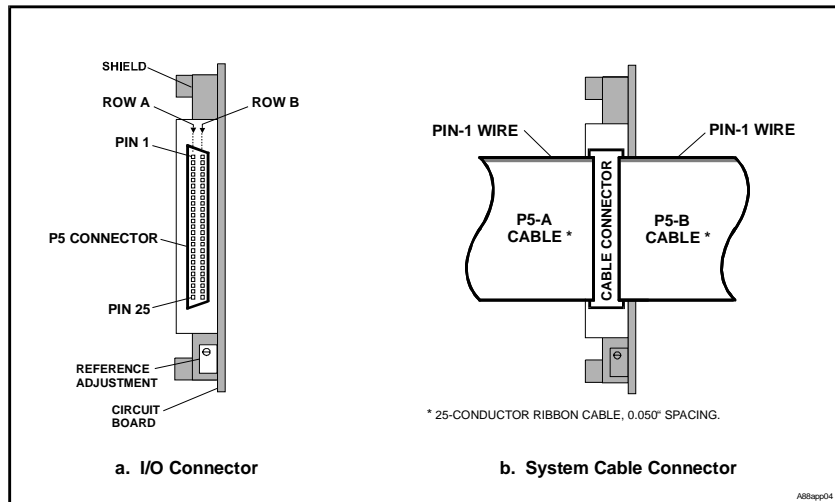

Figure 2-1. Input/Output Connector and Cables
I/O connector P5 is designed to mate with a standard male 50-pin 0.05" subminiature D connector, equivalent to AMP #1-750913-5. The insulation displacement (IDC) AMP cable connector accepts two 25-conductor ribbon cables in the configuration shown in Figure 2-1. Alternative discrete-wire 'round' cables may be used, but must have individually shielded conductors, with the signal conductors connected to even-numbered pins, and with the shields connected to odd-numbered pins.
3. Adjust the REFERENCE ADJUSTMENT trimmer (Figure 2-1) until the digital multimeter indication is within the appropriate range listed in the following table: